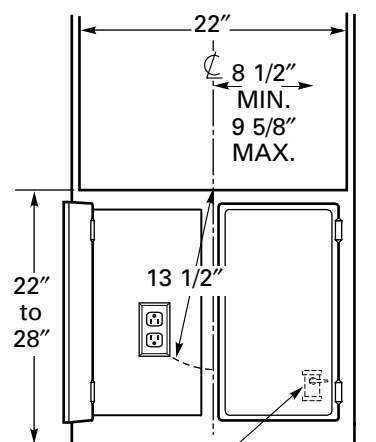

Fig. 6
- B** Install the electrical outlet below the oven on the left side, in a location that is easily reached through the cabinet doors (see Fig. 6).